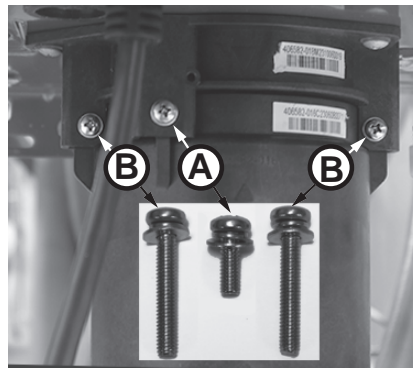

Figure 70 - Identify cartridge screws
- 6 Locate the three screws securing the X3®/Bypass cartridge as shown in Figure 70. Remove the (A) M4-12mm screw and the two (B) M4-25mm screws from cartridge. Place screws aside in a safe place for reinstallation.